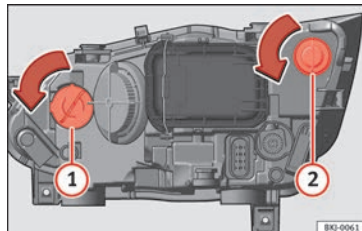

Fig. 116 In the engine compartment: turn signal light bulb ① and DRL (daytime running light) bulb ②.
- Turn the bulb holder » **Fig. 116** ① or ② to the left and pull.